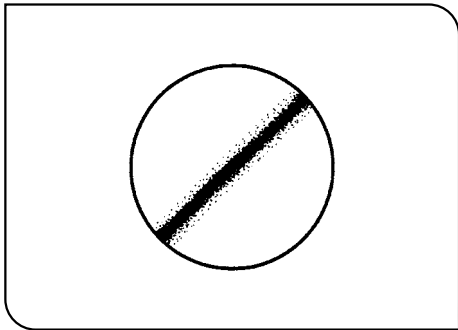

Fig. 3
c) While observing the objective pupil, loosen the polarizer clamping knob and rotate the polarizer rotation knob until a black interference stripe is visible. The position where the black interference stripe is darkest is the optimum position for using the polarizer (Fig. 3).